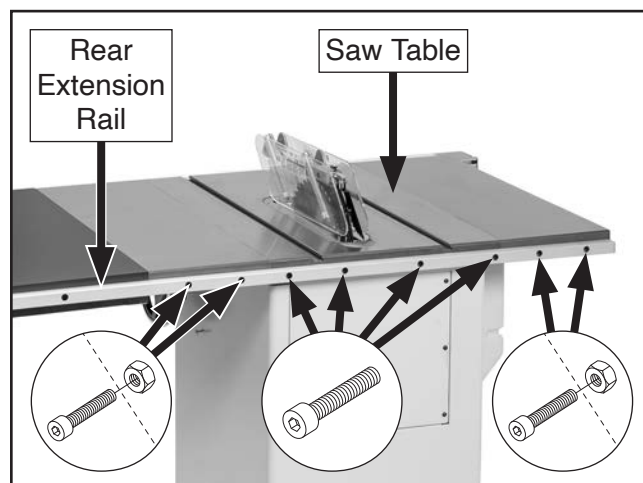

Figure 15. Rear extension rail attached to saw table.
19. Attach rear extension rail to saw table and extension wings with (8) cap screws and (4) hex nuts removed in **Step 6** (see **Figure 15**). Hand-tighten fasteners for now.